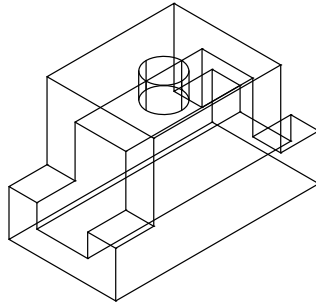

Figure 26-53 Model before subtraction
22. Choose the **Cylinder** tool from **Home > Modeling > Solid Primitives** drop-down and follow the command sequence given next to create the cylinder, as shown in Figure 26-53.